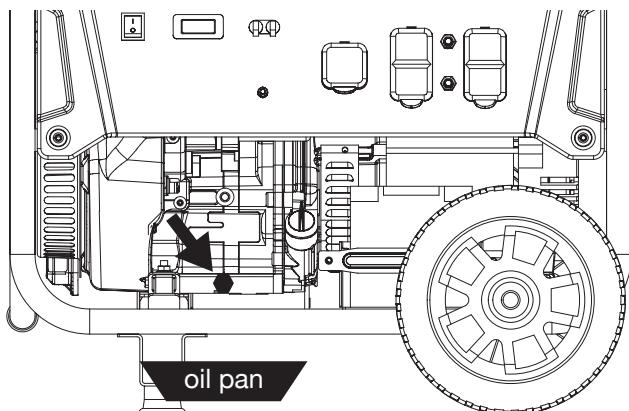

Figure 22 - Oil Drain Plug
3. Place oil pan (or suitable container) under the oil drain plug (see Figure 22).
5. Remove the oil drain plug (see Figure 22). Once removed, place the oil drain plug on a clean surface.